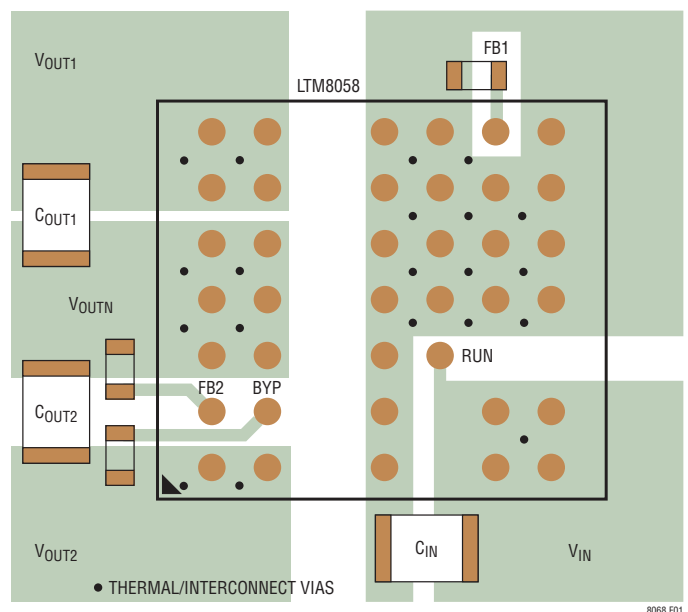

Figure 1. Layout Showing Suggested External Components, Planes and Thermal Vias
Most of the headaches associated with PCB layout have been alleviated or even eliminated by the high level of integration of the LTM8068. The LTM8068 is nevertheless a switching power supply, and care must be taken to minimize electrical noise to ensure proper operation. Even with the high level of integration, you may fail to achieve specified operation with a haphazard or poor layout. See Figure 1 for a suggested layout. Ensure that the grounding and heat sinking are acceptable.
- Use vias to connect the GND copper area to the board's internal ground planes. Liberally distribute these GND vias to provide both a good ground connection and thermal path to the internal planes of the printed circuit board. Pay attention to the location and density of the thermal vias in Figure 1. The LTM8068 can benefit from the heat sinking afforded by vias that connect to internal GND planes at these locations, due to their proximity to internal power handling components. The optimum number of thermal vias depends upon the printed circuit board design. For example, a board might use very small via holes. It should employ more thermal vias than a board that uses larger holes.